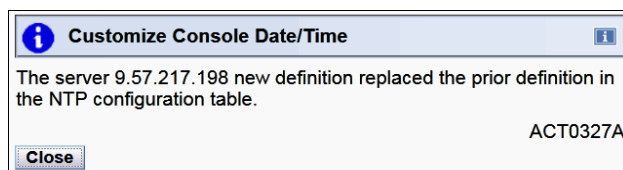

Figure 8-25 NTP setting change confirmation window
8. The next window (see Figure 8-25) indicates that the modification completed successfully. Click **Close**.